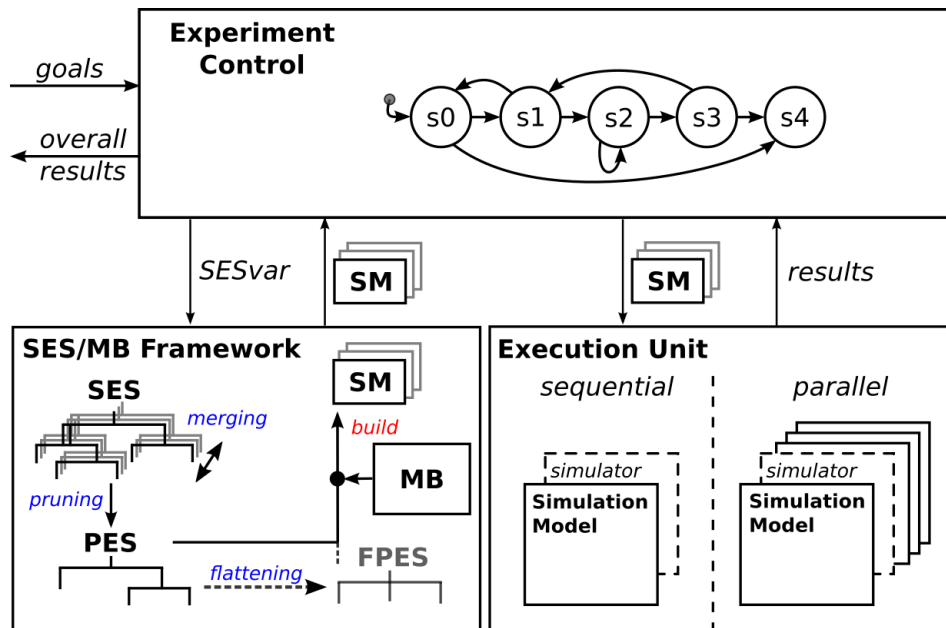

Figure 1.1: Extended SES/MB-based infrastructure.
As shown in detail in the documentation of SESToPy the SES can be connected to an MB for generating models. It was extended to allow automatic model generation and execution of models, depicted in Figure 1.1.
SESEuPy is used for automatic execution of simulation model (SM)s in the context of the infrastructure given in Figure 1.1. In the following sections of this chapter information on the function of SESEuPy shall be given.
As seen in Figures 1.1 and 1.2, SESEuPy receives a number of SMs to execute. Then the SMs can be executed sequential or in parallel. The simulation results are collected and returned.